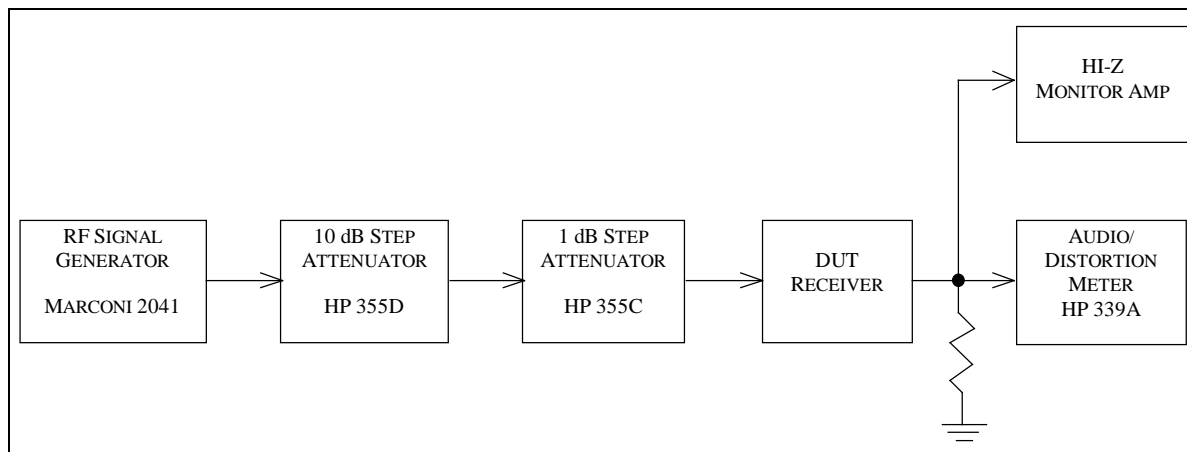

Figure 5-1 -- CW MDS Test Hook-up
5.1.2 Test hook-up (See Fig. 5-1)